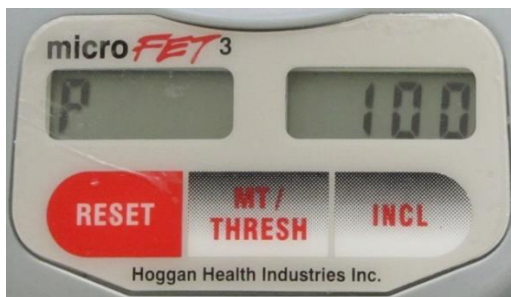

Figure 12. Power Check Display
- The device will display "P" for power in the left display window, and a number from 1 to 100 in the right display window. The number in the right display window indicates the battery charge in percentage, (See Figure 12).